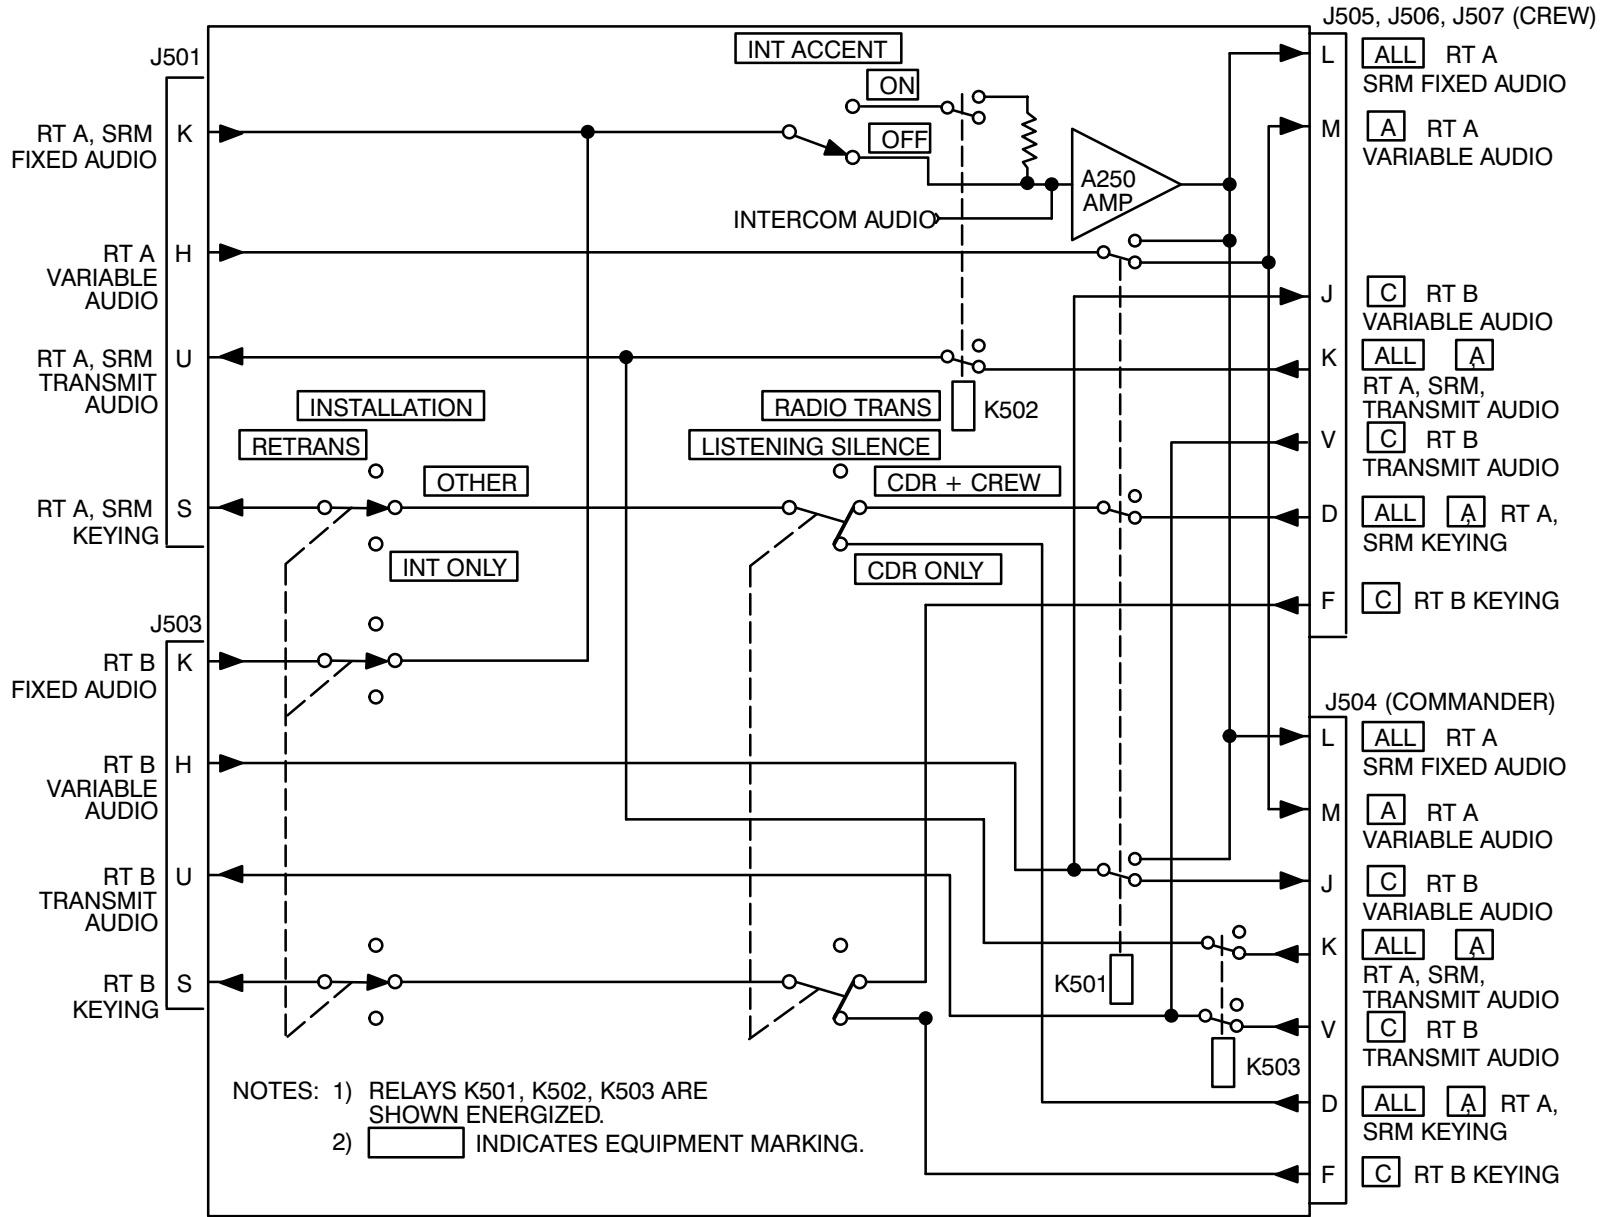

Figure 1-2. AM-1780/VRC SINGARS Radio Interface Path
(7) AM-1780 Radio Interface. See Figure 1-2.